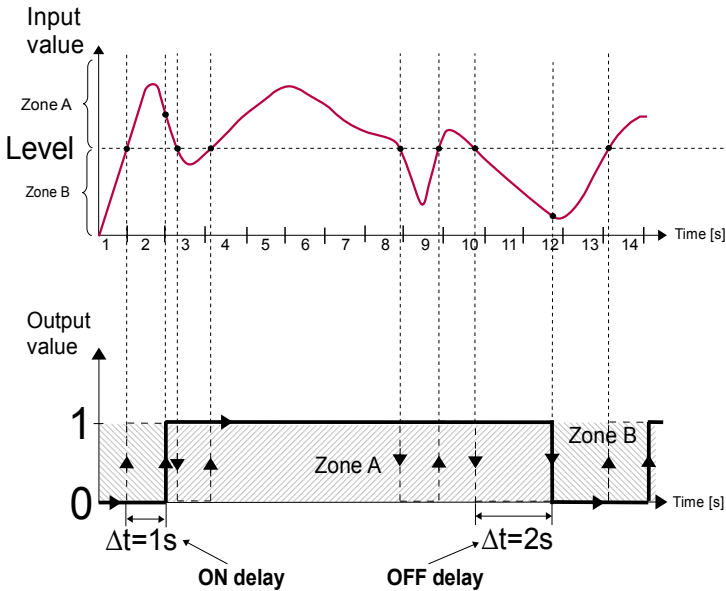

Fig. 7.88. Principle of relay output operation for sample timing settings:
- **ON delay** - this parameter allows to set the time that must pass from the time of exceeds **Level** value until the output switches from low to high state (see Fig. 7.88),
- **OFF delay** - this parameter allows the user to set the time that must pass from the time of exceeds **Level** value until the output switches from high to low state (see Fig. 7.88),